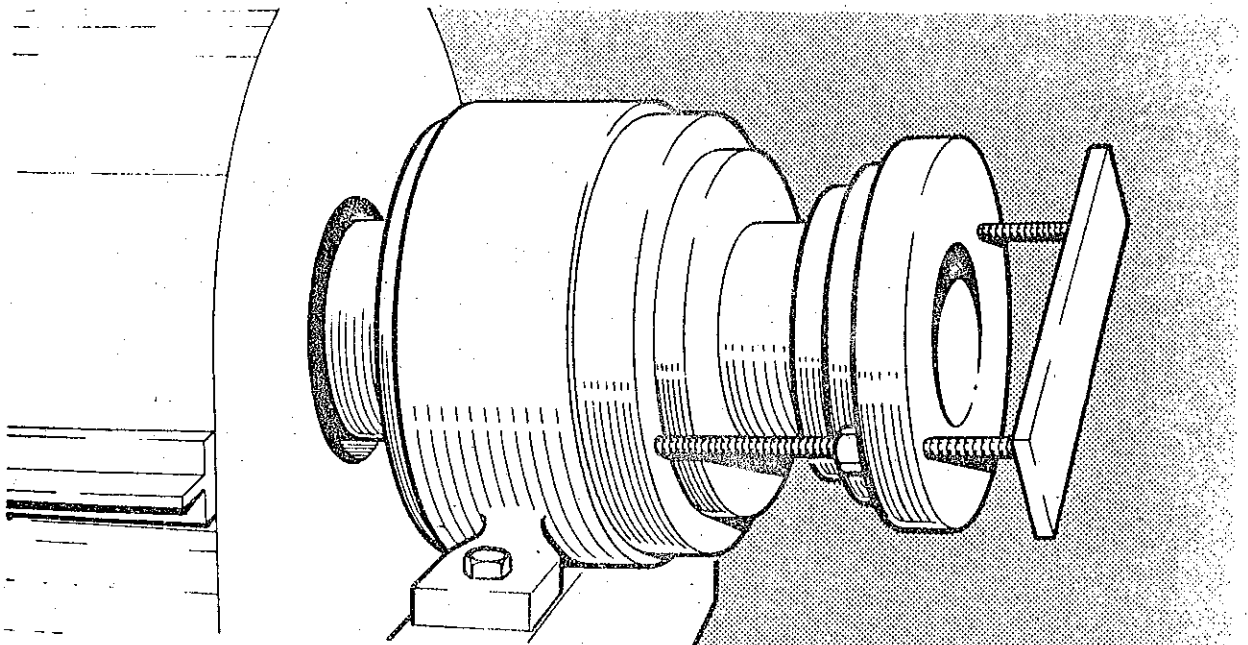

Figure 23. Gearbox Adaptor removal
- (e) Take out the Front Hub Adaptor Screws and pull off the Gearbox Adaptor, using the Adaptor Puller provided, to jack against the Bearing End Plate as shown in Figure 23.